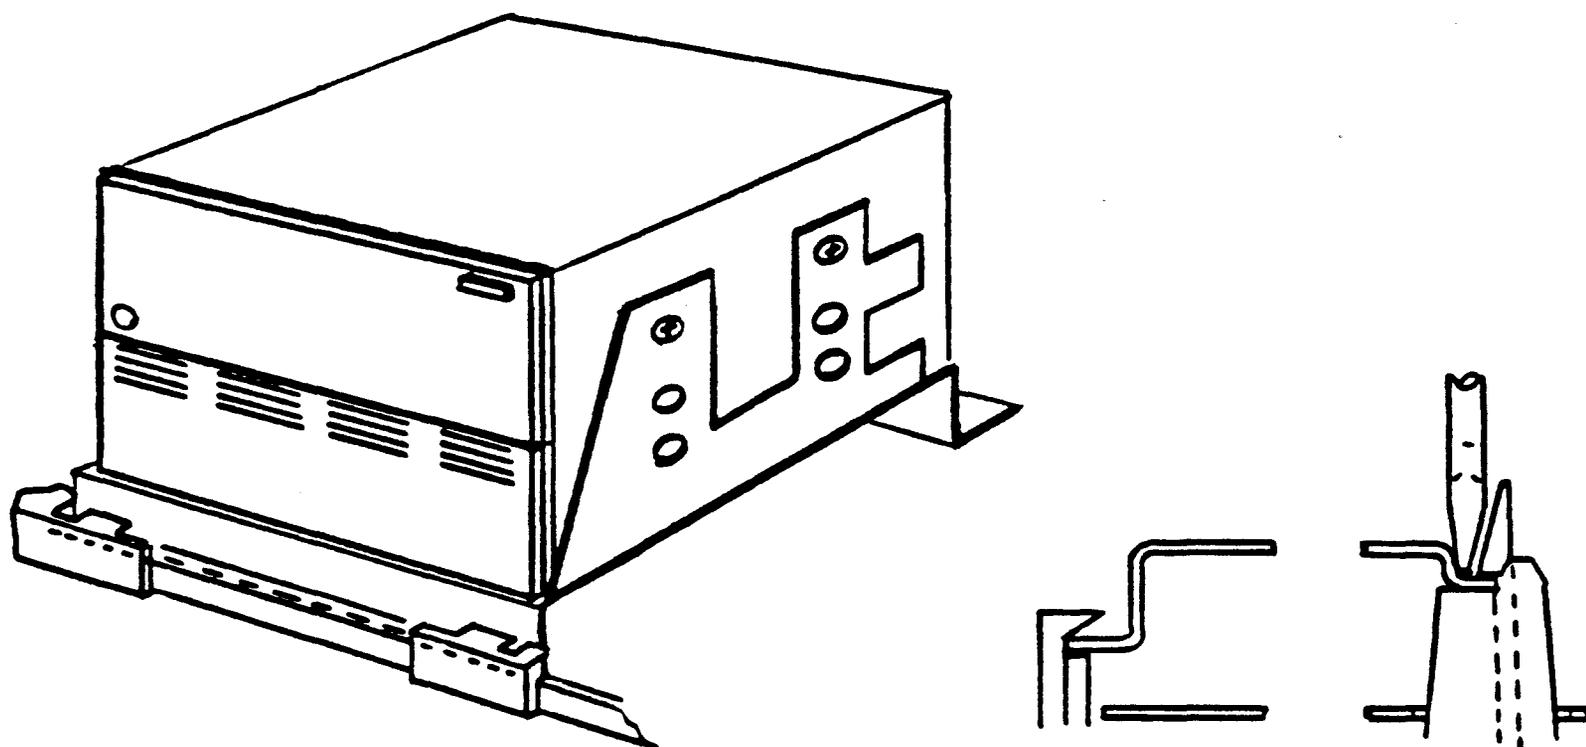

Figure 2-1. MTCS Mounting Bracket
8. Mount the MICS to the 907422-001 bracket (refer to Figure 2-1).
9. Snap the bracket of the MTCS into the left-hand side of the chassis (refer to Figure 2-1).